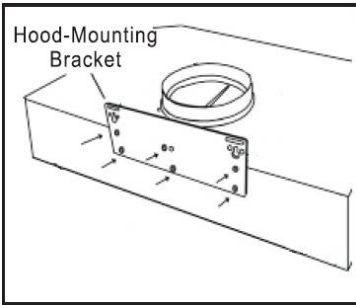
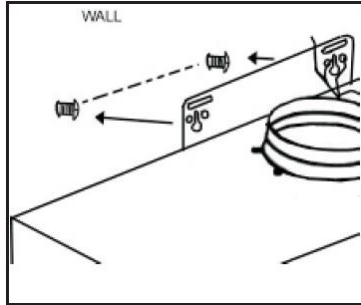

Fig. 2a
Fig. 2b
- f. Install the hood mounting bracket to the back of the unit and secure it with the (6) screws provided. **(Fig. 2a)**
- g. Install the duct cover mounting panel with the (5) screws provided.
- i. Mount the unit onto wall with mounting screws (not included) **(Fig. 2b)**
- k. Mount the unit onto wall with mounting screws (not included) **(Fig. 2b)**